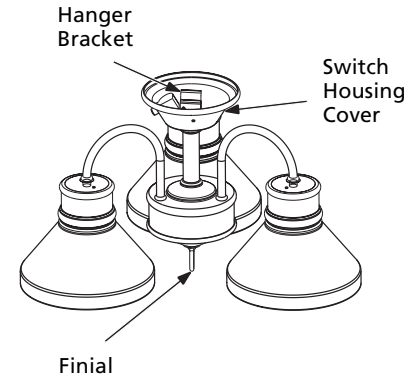

Figure 8a - Extending the Hanger Bracket
1. Turn the Finial counter clockwise and remove the Finial from the threaded rod. Pull the Hanger Bracket up to fully extend past the Switch Housing Cover. Refer to Figure 8a.
3. Place connected plugs and wires inside the switch housing cover between the hanger bracket. Refer to Figure 8a.